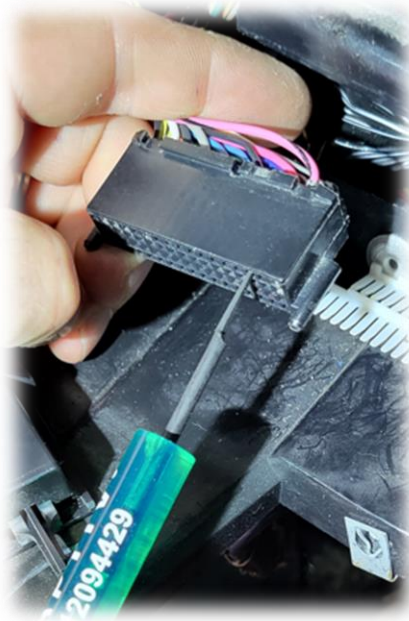
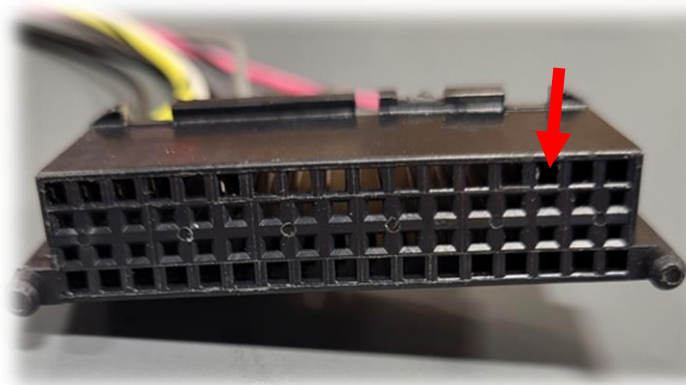
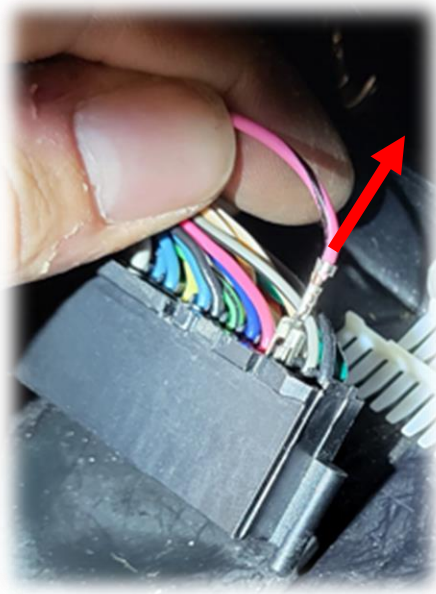

Figure 13
Figure 14
Figure 15
14. Remove the wire that is pink with a black stripe. It will be third from the right in the top row (A3). To do this use the included Delphi terminal removal tool. It is inserted in the top hole as shown by red arrow. See figure 13 and figure 14. When inserted the goal is to depress the retention tang so that the wire can be pulled out from the back of the connector Figure 15. It can be helpful to look at the "OUT" harness terminals to see what the terminal looks like and location of locking tang. See figure 13/14-B.